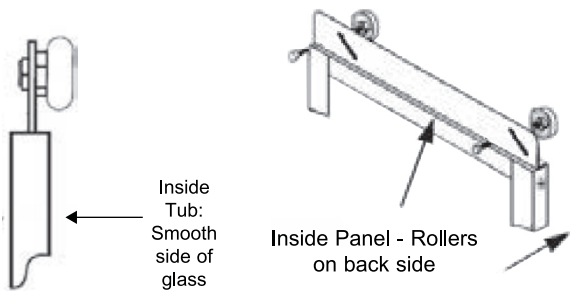

Figure 8
- B. Use two more M4x10mm HWH Screws (#17) to attach the remaining Rollers (#11) to the back surface of the Top Rail (#10) of the Inside Framed Door Panel (#6). The metal parts (the Nut side) should be against the frame, as shown in Figure 8.